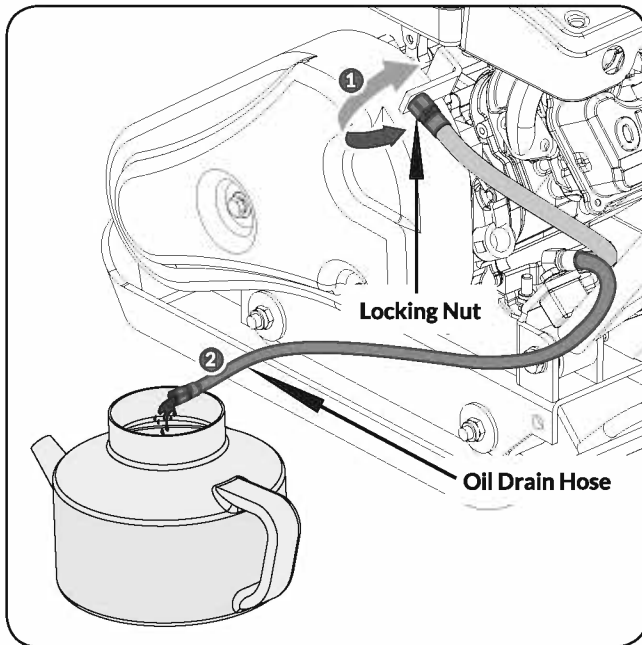

Figure 6
- Running the engine with dirty oil can cause premature engine wear and failure. Changing oil regularly is extremely important. The flexible oil drain hose is equipped to drain oil into appropriate receptacle. (See **Figure 6**)